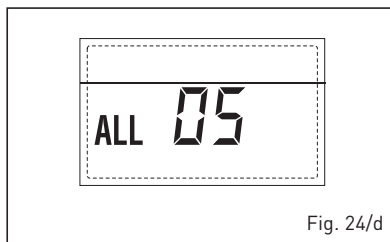

Fig. 24/d
- BLOCCO FIAMMA "ALL 06" (fig. 24/e)